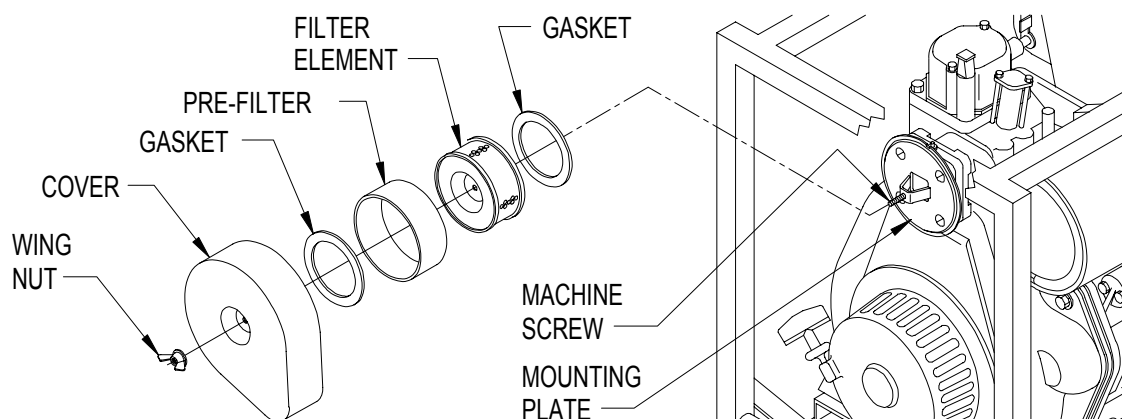

Figure 4-16. Air Intake System Components
- (1) Shut down generator set.
- (2) Remove wing nut (Figure 4-16), cover, and filter element with pre-filter.
- (3) Remove pre-filter from filter element.
- (4) If necessary, remove gaskets from mounting plate and cover. Clean adhesive residue from surfaces.
- (1) Inspect cover (Figure 4-16) for cleanliness, cracks and other damage. Clean cover with mild soap and water.
- (2) Inspect filter element for cleanliness, dents, and crushed corrugations. Replace if damaged.
- (3) Discard pre-filter.
- (4) Replace damaged parts.
- (5) If damaged, replace machine screw in mounting plate. Use locking compound (Item 6, Appendix E) to secure machine screw in mounting plate.
- (1) If removed, install new gasket (Figure 4-16) on cover.
- (2) Position air filter element on mounting plate and mark position for gasket on plate. Remove air filter element and install new gasket on mounting plate with adhesive side toward mounting plate.